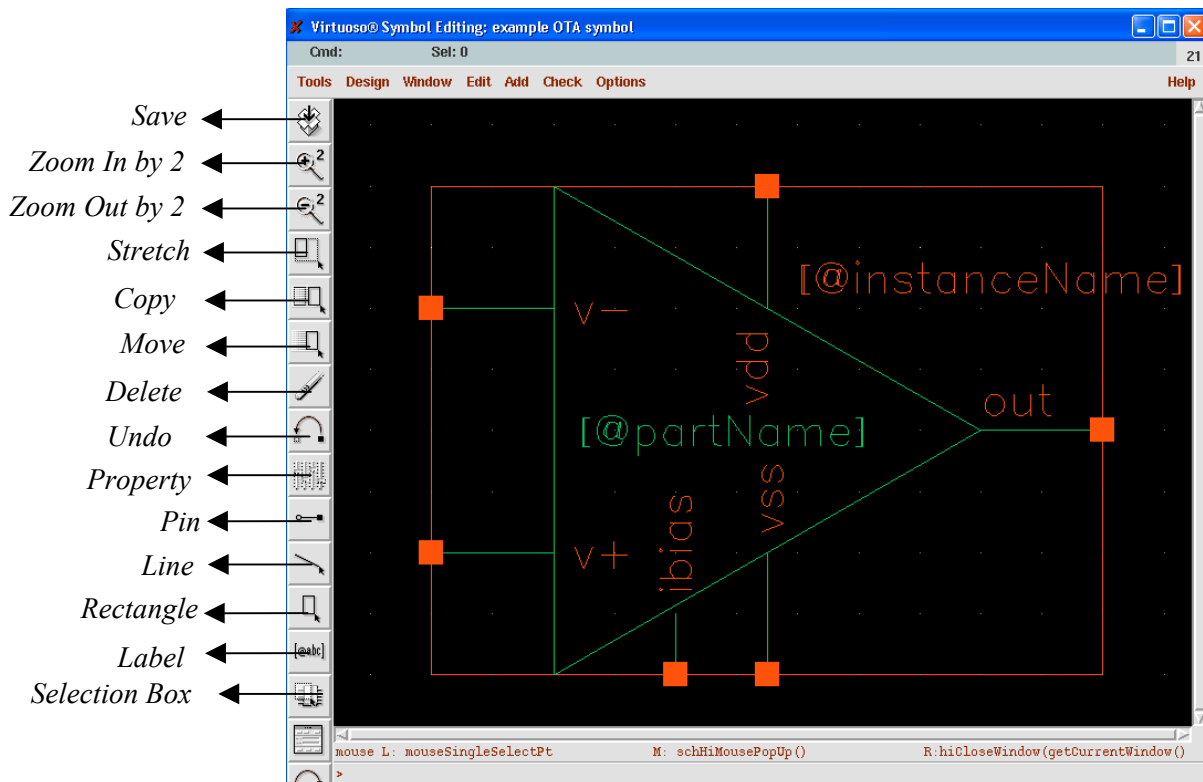

Figure 6. Symbol Editor window
- b) Now, select **Design > Create Cellview > From cellview**. A window appears that by default creates a symbol view from the schematic view. Just click OK. A black window pops up with the symbol. It can be edited if desired (changing shape, pin distribution, etc.). Fig. 6 shows the resulting symbol (after some editing) and the actions associated to the left icons.